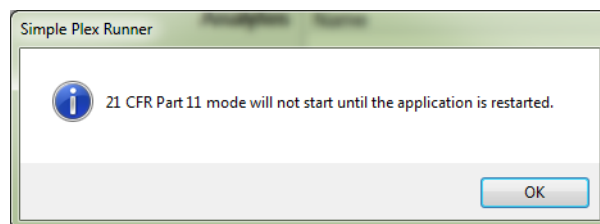

Figure 6-4: Restart application to start using 21 CFR Part 11 Mode.
- A message will display to restart the Runner application in order to start using the 21 CFR Part 11 Mode (Figure 6-4).